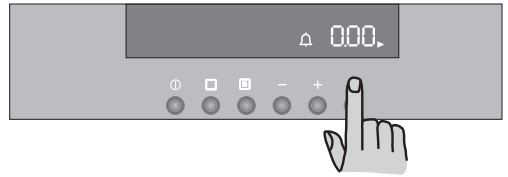

Fig. 8
- 1) Press button  to select the Minute Minder function (Fig. 8). The relevant  symbol will flash and the control panel will display "0.00".